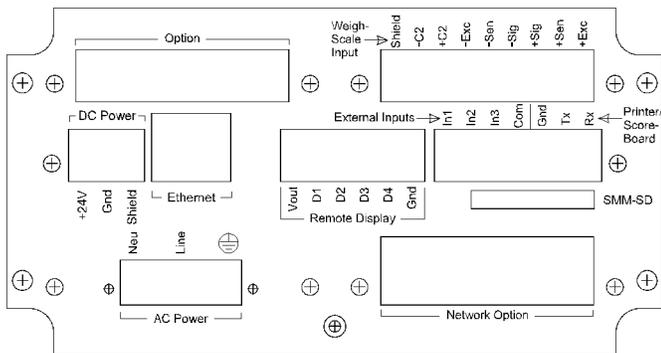

FIG. 7 REAR PANEL
- AC Power Input (See Fig. 7)
- Step 3. Plug the connector into the header at the rear panel. (See Fig. 7)